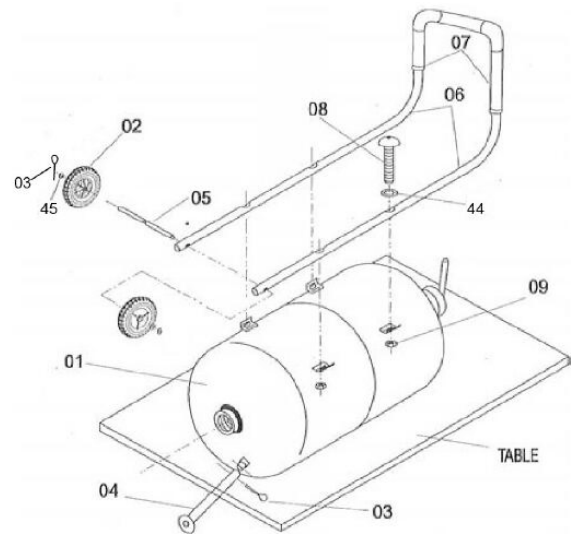

Figure 2
5. Lay the Abrasive Blast Tank on a flat level surface (such as a workbench or table top), with the handlebar mounting brackets facing up. (Figure 2)
7. Place a Washer (44) onto each of the four handlebar mounting Screws (08) and insert them through each of the four holes.
8. Place a nut (09) onto the end of each screw and firmly tighten with a wrench.
9. Locate the Wheel Axle (05) and slide it through the axle holes located at the bottom of the handlebar.
10. Slide a wheel (02) onto each end of the wheel axle.
11. Slide a washer (45) onto each end of the wheel axle.
12. Insert Cotter Pin (03) through the holes and bend it, so the wheel (02) cannot slide off the Axle (05).
14. Align the holes of the Front Foot (04) with the holes in the foot mount on the front side of the Blast Tank.
15. Insert Cotter Pin (03) through the holes and bend it so the Front Foot cannot slide off the foot mount.